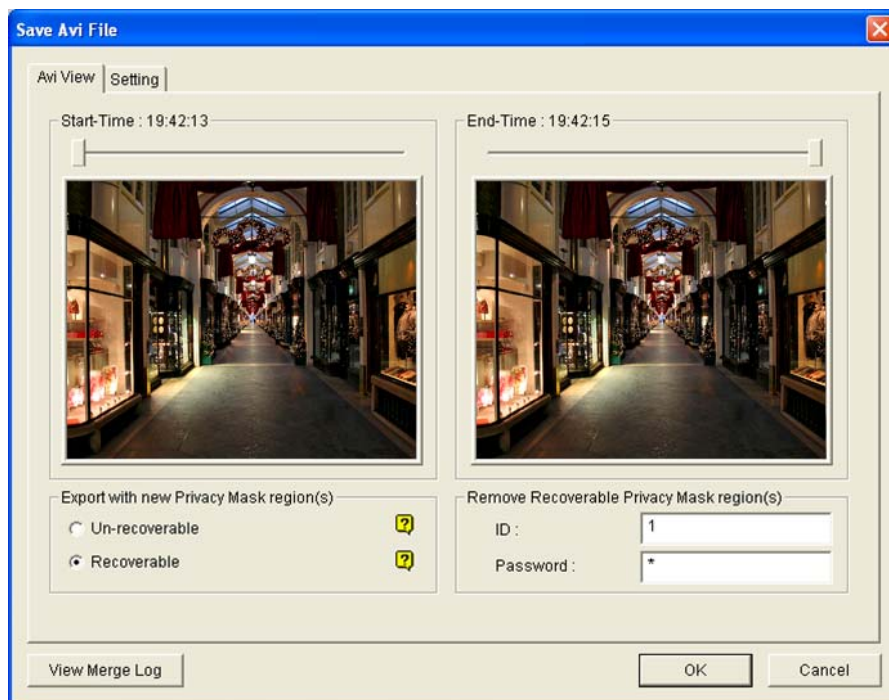

Figure 4-8 Save AVI File
1. In the Export with New Privacy Mask Region(s) section (Figure 4-8), select **Un-recoverable** and/or **Recoverable**.